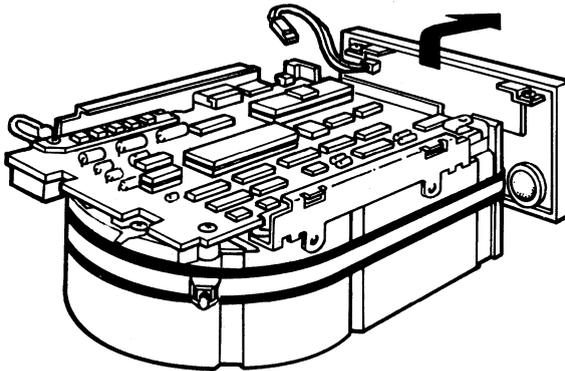

Figure 6-12 Remove the Front Bezel
4. Remove the front bezel by pulling it away from the drive. The bezel is held in place with pop fasteners (Figure 6-12).